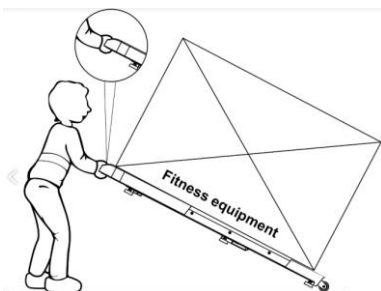

Figure 1.4.1-1
- 1.4.1 To move the equipment, carefully lift the rear end by pushing down on the 2 front transport wheels (Figure 1.4.1-1). Carefully steer the equipment to another location.